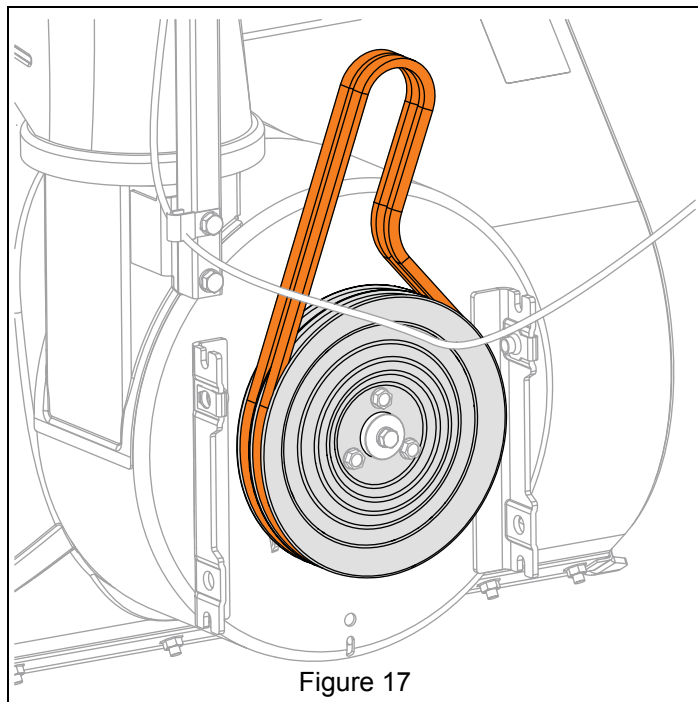

Figure 17
4. Remove attachment drive belts from attachment drive pulley. See Figure 17.